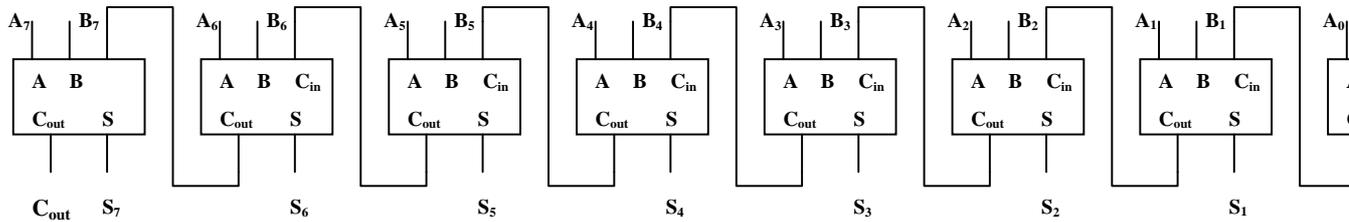

Figure 1: Block Diagram of an 8-bit Ripple Carry Adder
5. In the *RCA_8bit.v* file, declare the top level module of the 8-bit RCA, listing and declaring properly all the input and output wires. There should be 17 input wires (16 input + 1 Carry-in) and 9 output wires (8 sum and 1 Carry-out). This module will implement the functionality described by Figure 1.
6. After the Signal Declarations are out of the way, make eight dummy instantiations of a module named '*FullAdd*', with the instance names being Adder1 to Adder 8. This module, although not yet defined, will be used to implement a single Full adder; thus it will have 3 inputs and 2 outputs. This module will implement the functionality of any one of the 8 blocks shown in Figure 1. (For help with this, refer to Lab Guide, Verilog Chapter, Section 3.2)
7. Make sure to connect the input and output wires of all the *FullAdd* module instantiations properly, as shown in Figure 1.